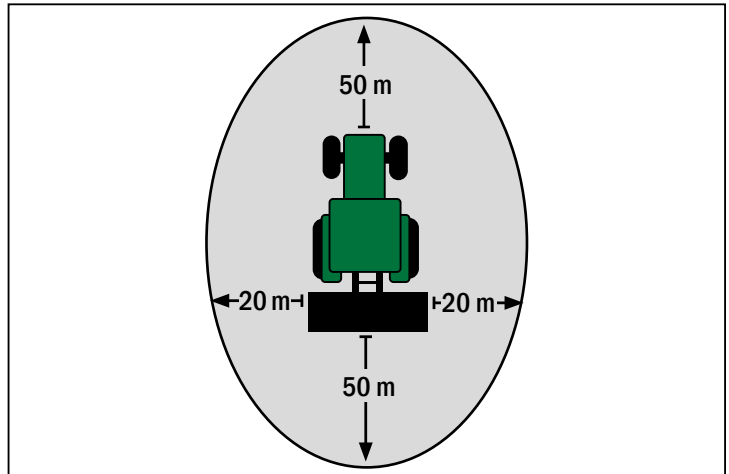

Fig. 2: Hazardous area
- No persons must be in the hazardous area as soon as the steering system is activated (see Fig. 2). When using an implement, observe the safety distances detailed in the instructions for the implement.